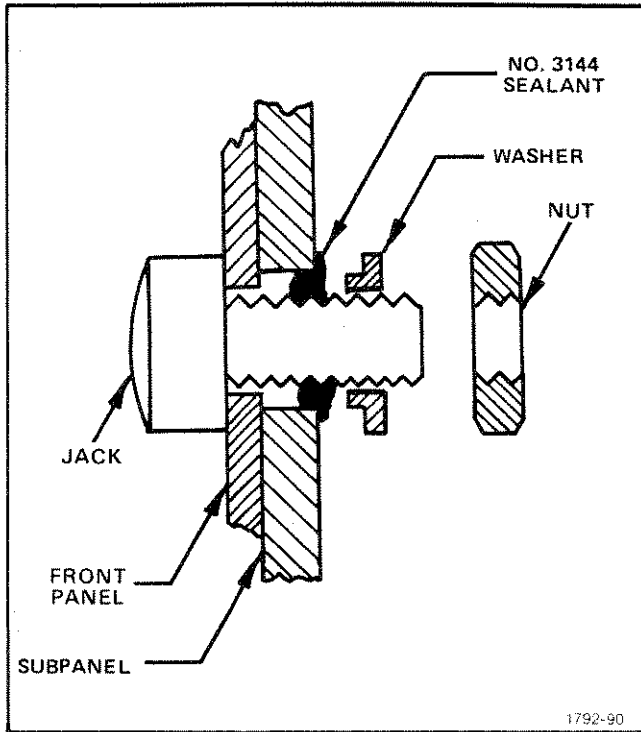

Fig. 5-37. Detail of front-panel jacks.
**31. Watertight sealing procedures for the Front Panel jacks of the X-Y Output Module, 016-0606-00, (see Fig. 5-37)**
3. Form a bead of No. 3144 Sealant around the Jack/Subpanel interface as shown in Fig. 5-37.